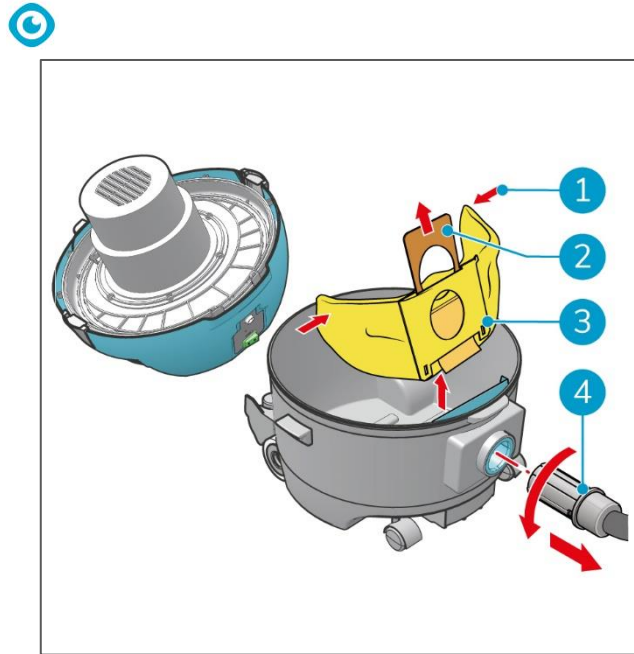

Figure 11
6. Turn the hose (Figure 11, pos 4) counterclockwise and remove it from the hose connector.
7. Pull the cardboard tag (Figure 11, pos 2) to seal the dust bag.
8. Fold the ends of the dust bag (Figure 11, pos 1) towards each other.
9. Remove the old dust bag (Figure 11, pos 3).